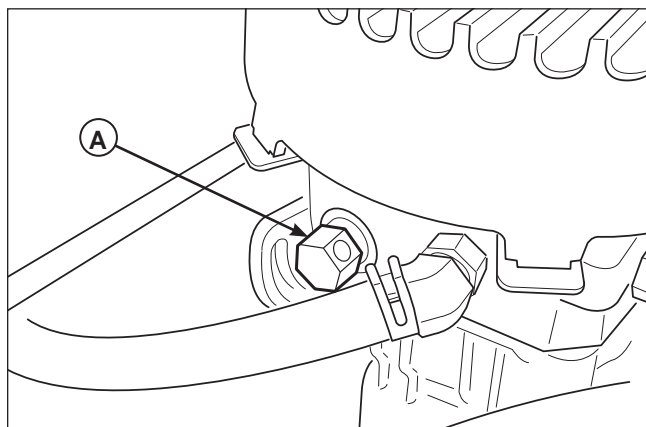

Figure 4. Hydraulic System By-Pass
3. To disengage the pumps (free-wheel position), turn the hydraulic release valves (A, Figure 4) located on the pumps **counter-clockwise** a maximum of 2 full turns.